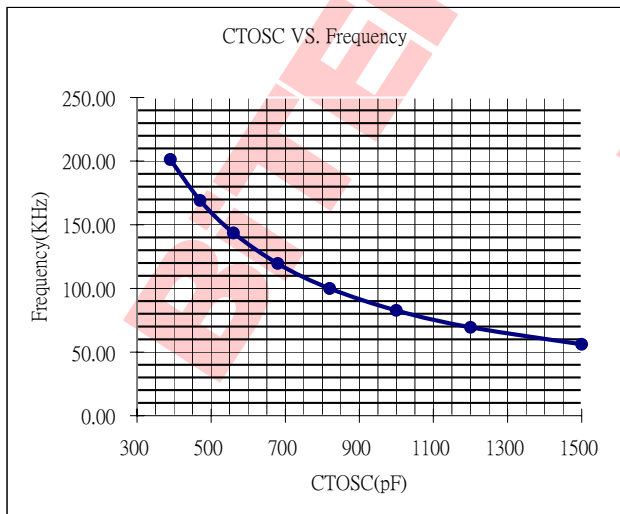

Fig.1
Or a 100KHz operation PWM control system if an 820pF capacitor is connected to pin CTOSC. Equation (1) is valid only when VDD=6V, temperature=30°C and frequency ≈ (80K ~ 120K)Hz. Fig. 1 shows the relationship between the frequency of the high frequency PWM and CTOSC capacitance.